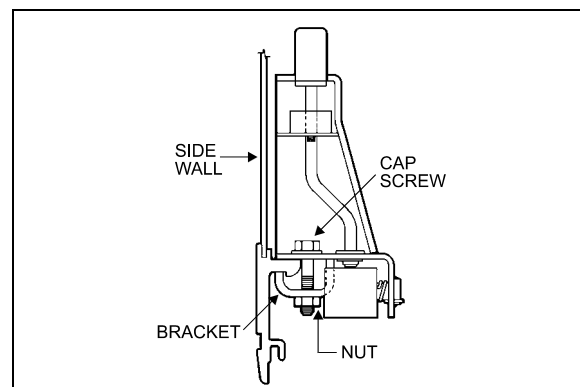

FIGURE 43: ARMREST
4. Remove 2 cap screws, nuts, and washers holding seat frame to side wall and retain the 2 holding brackets. See figure 43.